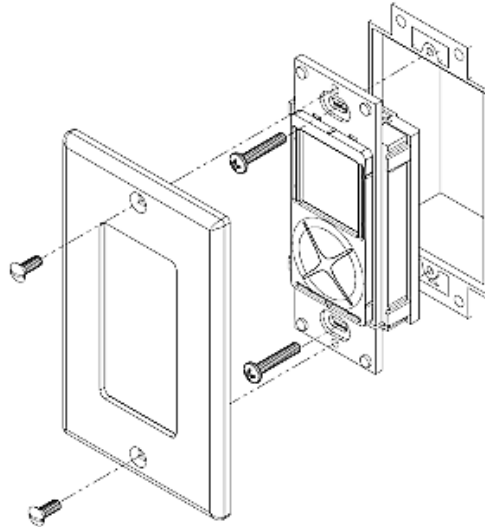

Figure 1
2. Install an electrical junction box (metal or plastic) at the location selected for the multifunction control (Figure 1);